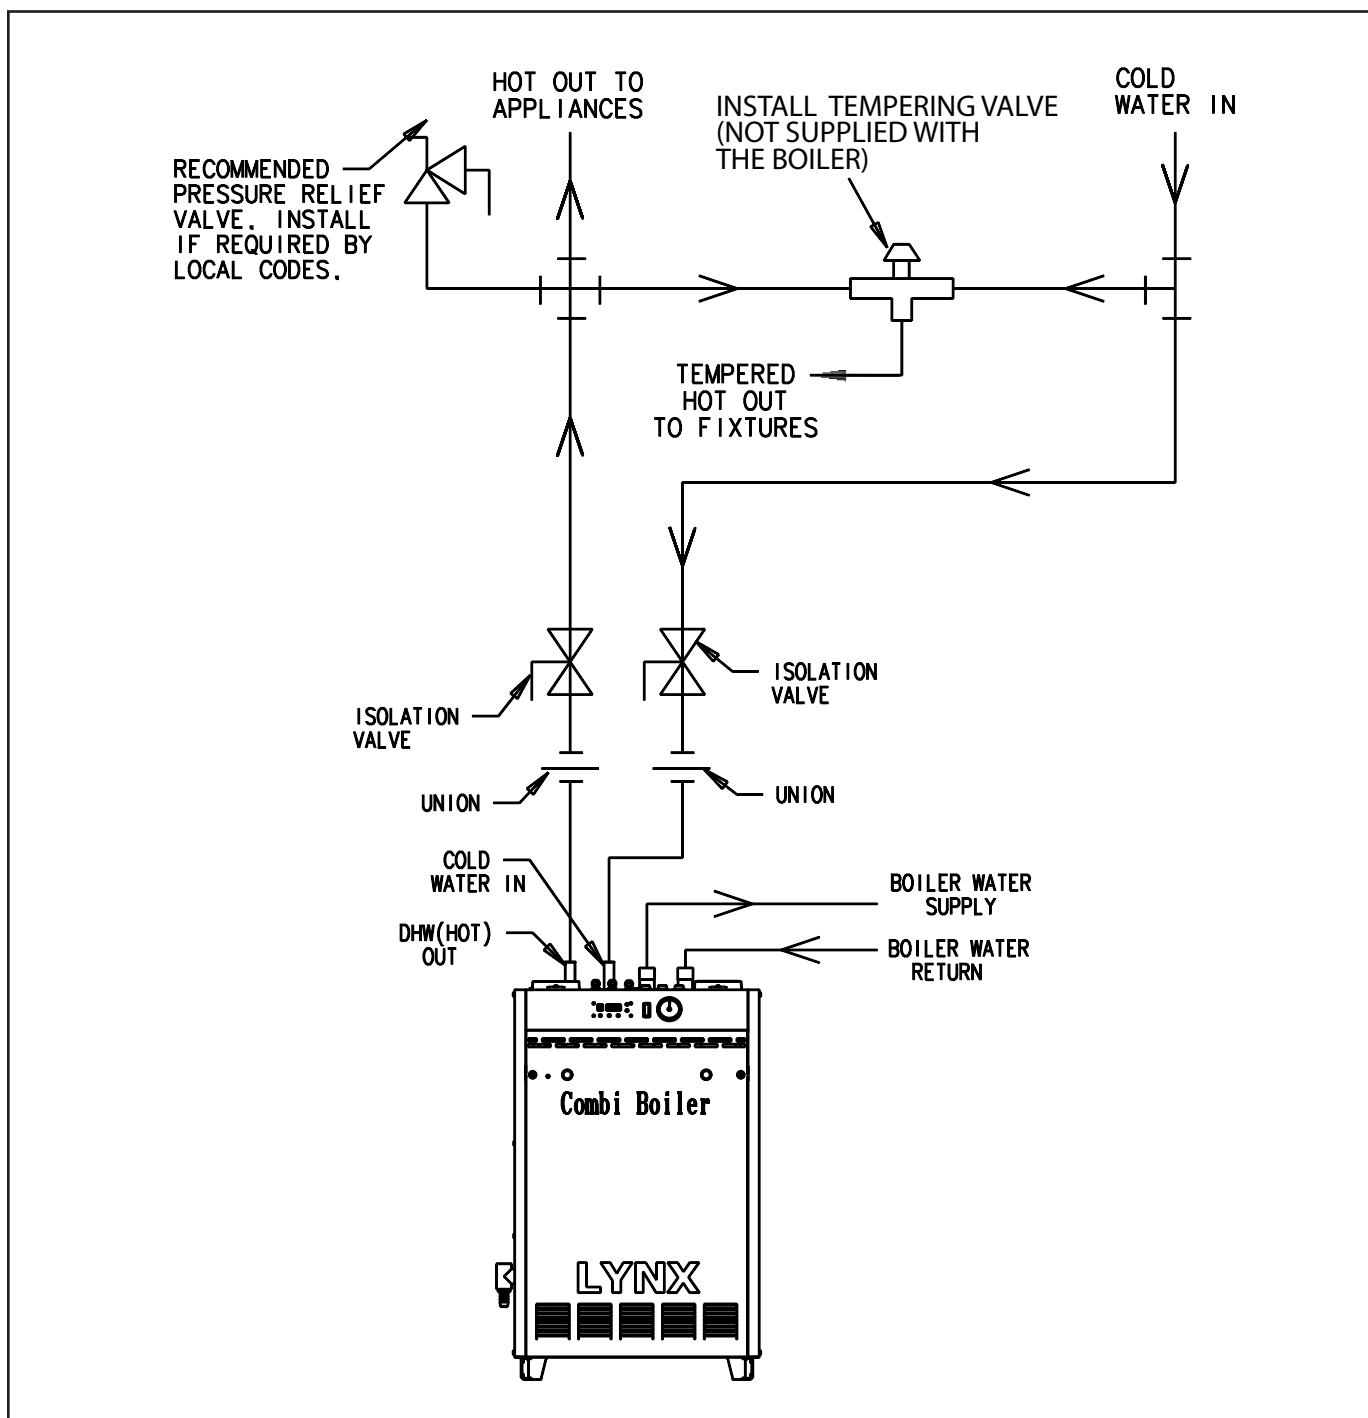

Figure 23. DHW piping.
A tempering valve must be installed on the hot water outlet to all fixtures where direct user contact can be made with the water supplied by the DHW system, to prevent any possible scalding conditions. See Figure 23 for the appropriate installation method of this device (not supplied with the boiler).
- Make all piping connections to and from DHW system of the combi boiler as shown in figure 23.
CAUTION: A tempering valve (not supplied with boiler) is recommended to be installed on the hot water outlet to all fixtures where direct user contact can be made with the hot water supplied by the DHW system to prevent any possible scalding conditions. See figure 23.